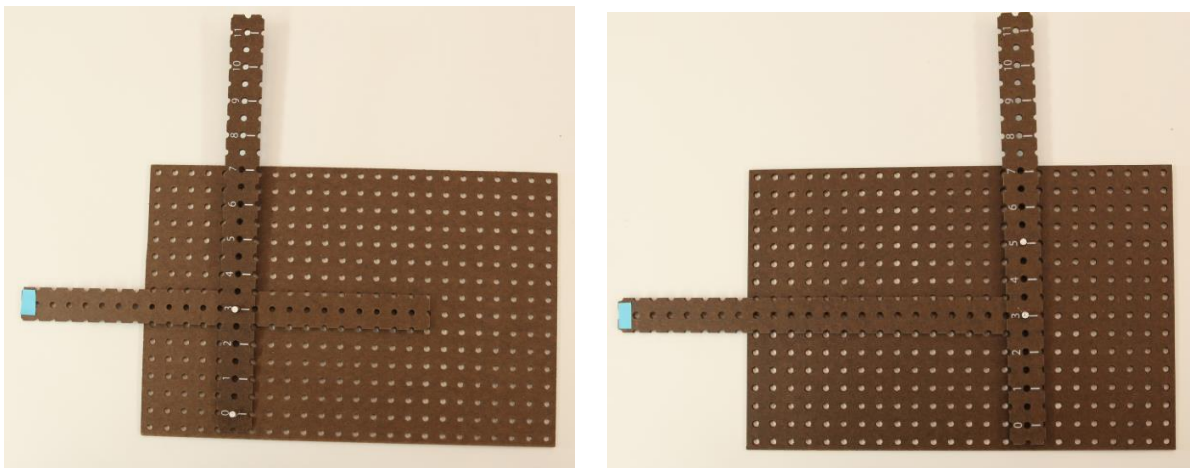

Figure 6: Hammer-and Nail mechanism (left); Butterfly-and-Net mechanism (right)
- ✦ Make two pegboard models: One Butterfly-and-Net mechanism, one with the output to the right; and one Hammer-and-Nail mechanism, with the output to the left. These will be useful for illustrating how to combine two one-output mechanisms to create a two-output mechanism. See Figures 6 & 7, pp. 58-59.
2. **Demonstration of how to combine mechanisms** (Whole class – 15 minutes): Demonstrate how a Butterfly-and -Net and a Hammer-and-Nail mechanism can be operated together to work like the Opposite-Direction Windshield Wipers. These two mechanisms are shown in Figure 6. Note that in the Hammer-and-Nail (left in Figure 6), the output is to the left while the Butterfly-and-Net mechanism (right in Figure 6) has its output to the right.
Figure 7: Place the two mechanisms from Figure 6 one on top of the other (left); then operate their inputs together to create the Opposite-Direction Windshield Wipers (right)